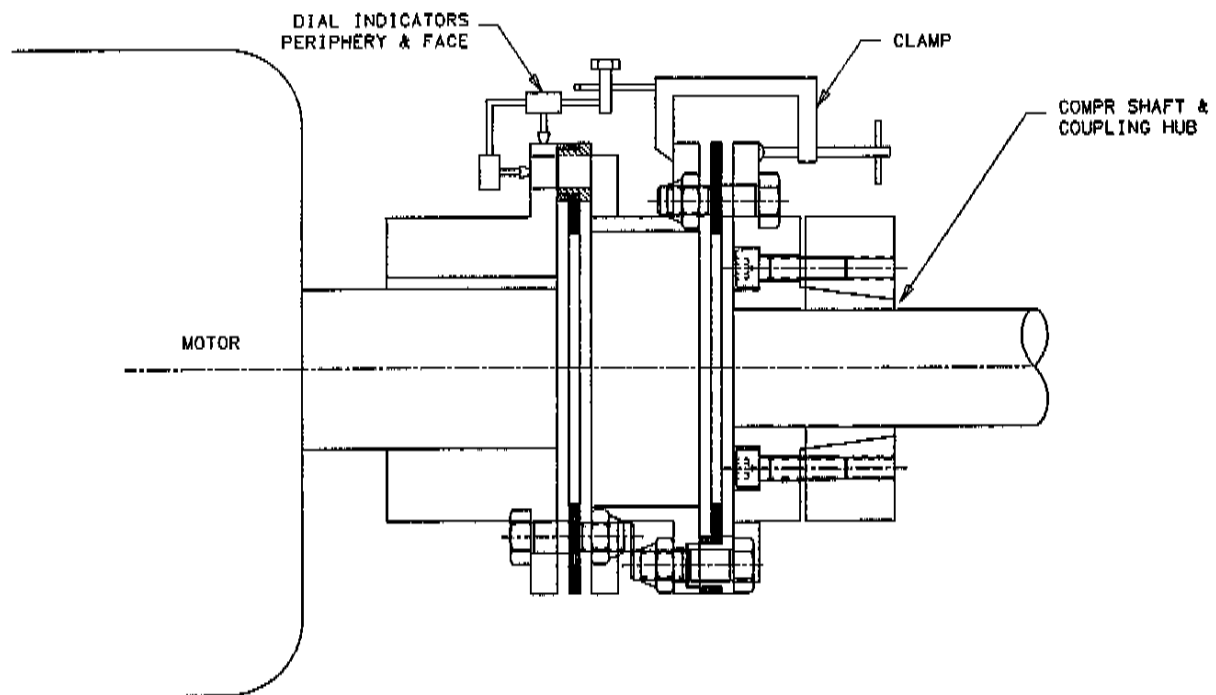

Figure 1-8: Typical Dial Indicator Mounting
- C. With the coupling assembled, mount the dial indicator on the compressor hub and take an indicator reading on the coupling hub as shown in Figure 1-8. Due to the span of the spacer coupling, indicator sag may be significant, and the indicator readings must be corrected to include the sag.